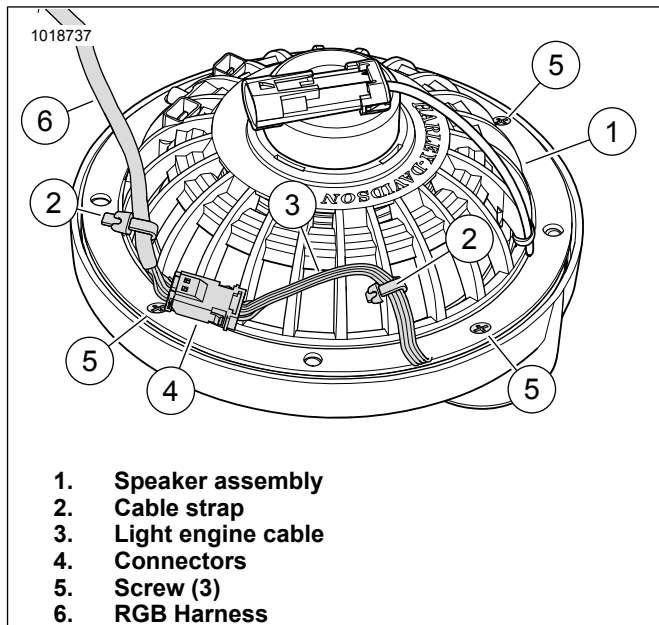

Figure 27. Speaker Back, Cable and Cable Strap
- a. See Figure 27. Join connectors (4) from the light engine (3) to RGB harness (6).
- b. Route light engine cable (3) along the back of the speaker (1) as shown. To stabilize the connectors (4), secure light engine cable (3) and RGB harness (6) with cable straps (2) as shown.
- d. Install grille and screws (5) for speaker.